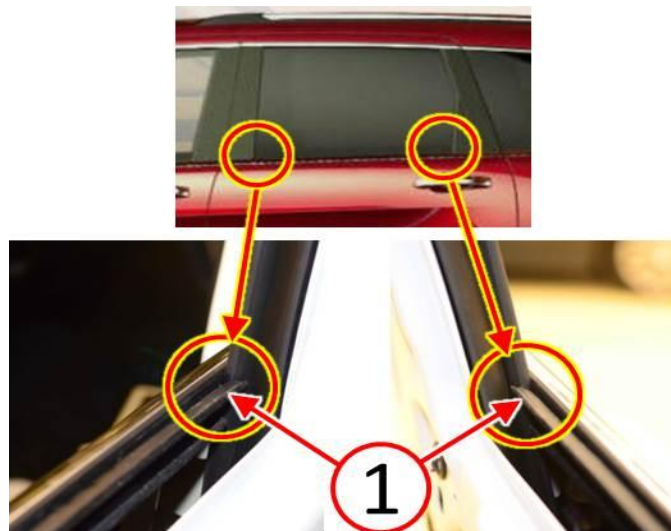

Fig. 15 Do Not Damage Belt Molding Weatherstrip Ends
CAUTION: Be careful to not damage the outer belt molding weatherstrip ends (1) while removing and installing the door glass run seal (Fig. 15).